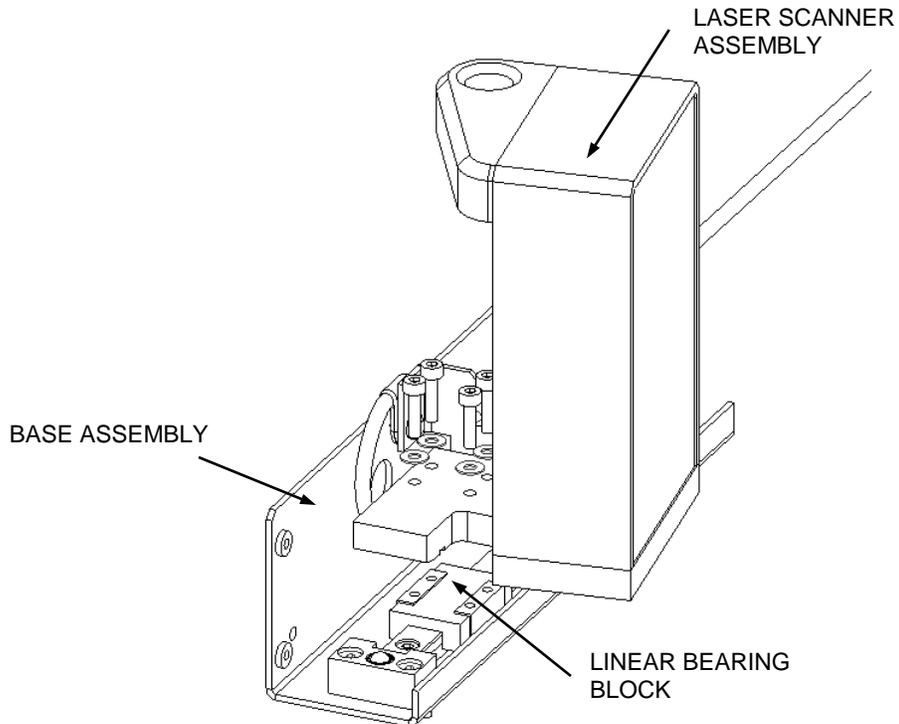
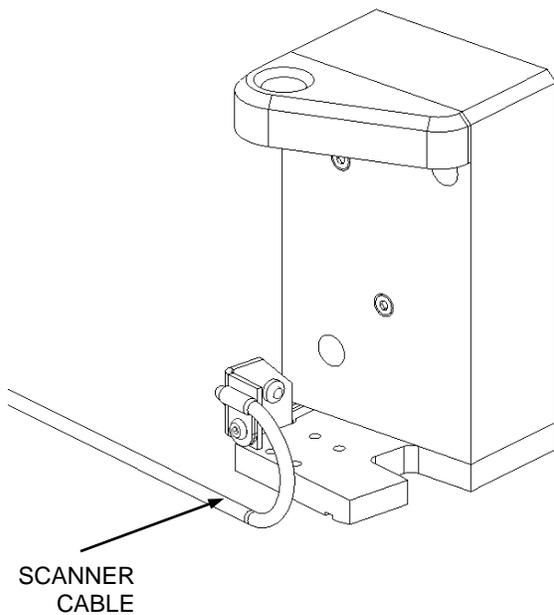

Figure 11-7: Removing the Laser Scanning Assembly from the Base Assembly
Figure 11-8: Laser Scanner Assembly
4. Remove the Laser Scanner Assembly from the Linear Bearing Block by removing the four M3x12 Socket Cap Head Screws (Figure 11-7). The Laser Scanner Assembly is shown in Figure 11-8.